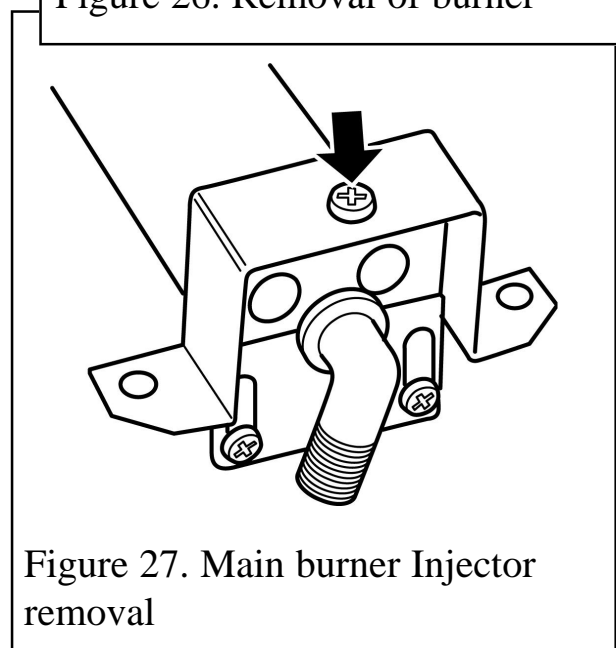

Figure 27. Main burner Injector removal
(See figure 27).
2. Remove the burner clamping screw (See figure 27)